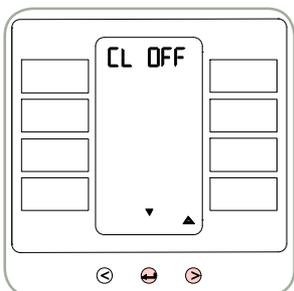

Fig. 26 Default setting of the Timer (CL)
5. Setting the timer (CL):
- The default setting of the timer is OFF, see fig.26 . Beverages can be poured at any time.